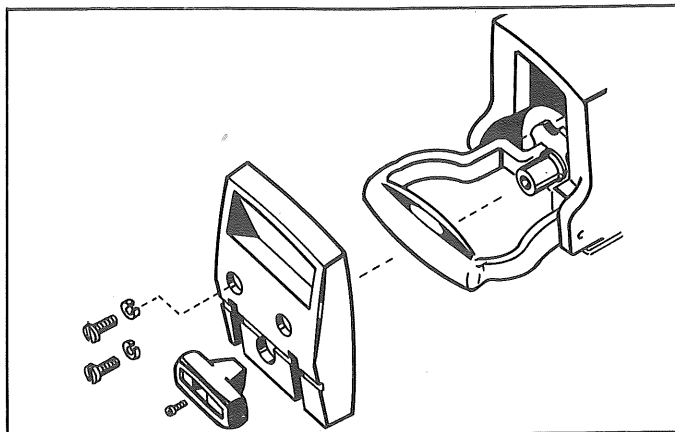

FIG. 6
1. Remove arm index ("T" shaped) handle from front of arm by removing the phillips head screw in the center of the handle. Fig. 6.